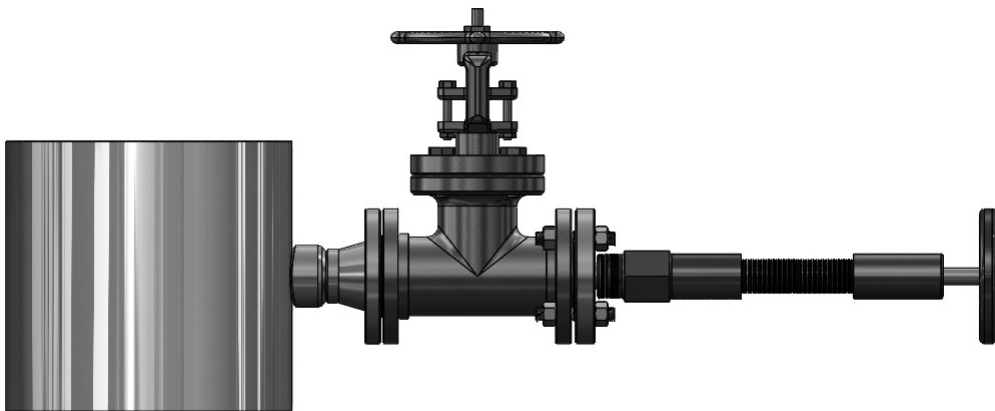

Figure 6. Hot Tap Drilling Machines
- With the access valve in the full open position, install an appropriate Hot Tap Drilling Machine (Figure 6) and drill a hole in the pipe (hole sizes per chart below). Follow the instructions given by the Hot Tap Drilling Machine.